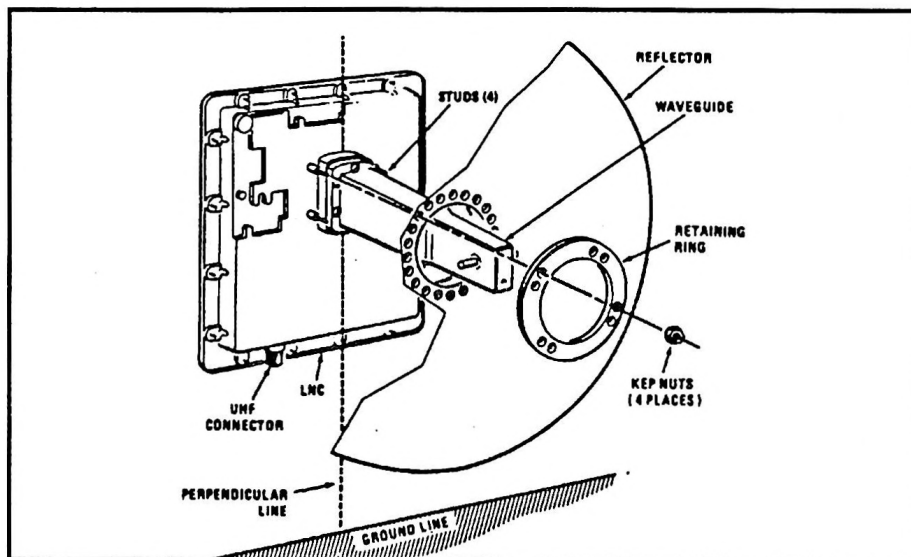

Figure 4-9. Installing LNC on Antenna Reflector
6. On the rear of the antenna, install the low noise converter and secure (finger tight) with the retainer ring and nuts. Ensure that the UHF Series RF connector points downward and is perpendicular to the ground. (See Figure 4-9.) If correctly installed, the narrow side of the waveguide is parallel to the ground.